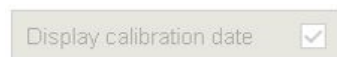

Figure 173
**Display calibration date:** Only for service (Figure 173).